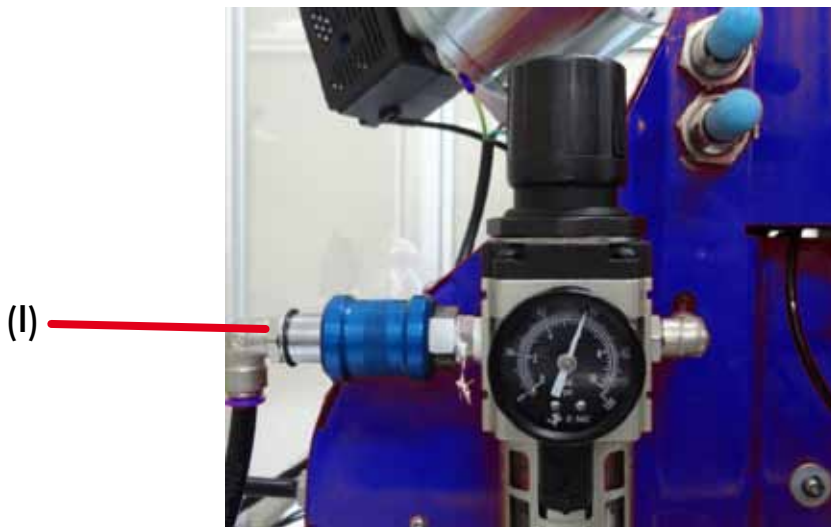

Fig 4
- The machine has an air inlet valve "I" (fig. 4) to manually open and close the air supply to the machine; When the machine is not in use, it should be shut (see fig. 6) to avoid accidents when used by a third party. We also suggest disconnecting the hosepipe from the compressor/air supply for safety reasons.
Operator should pay attention to the position of the air inlet valve (I) (See Fig 4) located on the left hand side of the machine. When the valve changes its position from open to close, the compressed air on the internal circuit of the machine is expelled, preventing any unexpected action from the pneumatic cylinder if by accident the pedal is pressed.